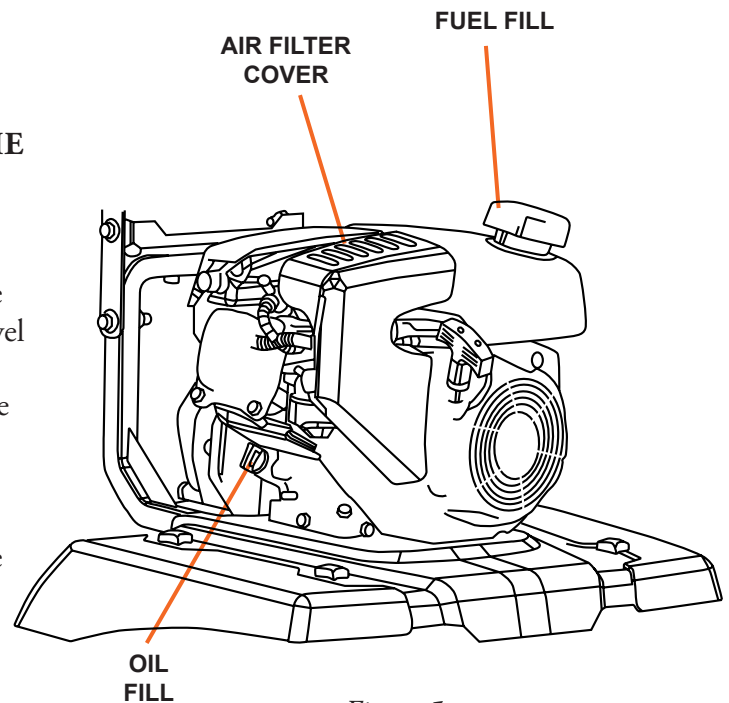

Figure 5
1. Add oil according to engine manual. Do not overfill. Use SAE30 engine oil. **Do not mix oil with gasoline.** Oil level must be full. Check the oil level by removing oil fill plug (see Figure 5). Oil level should be up to the bottom of the fill plug opening.